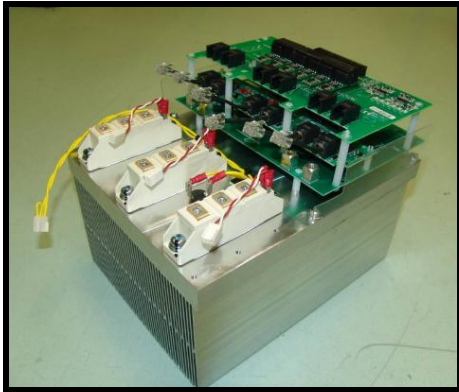

Figure 7.3.30
- 2) Remove the 2 Phillips screws **M5x12** DIN-7895H which fix the heatsink by the top (see figure 7.3.30).